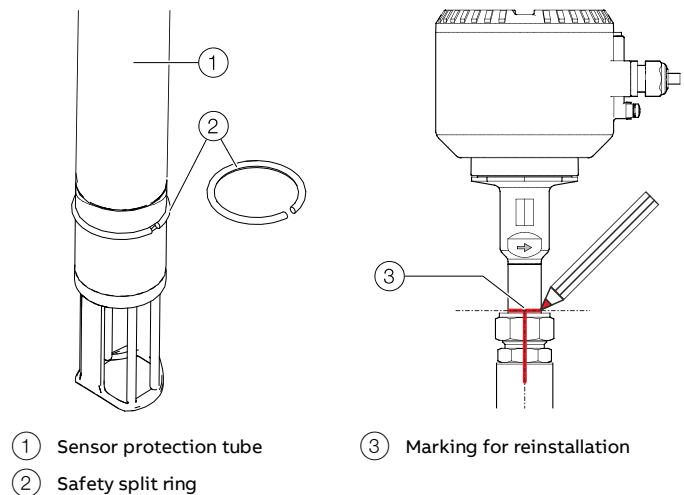
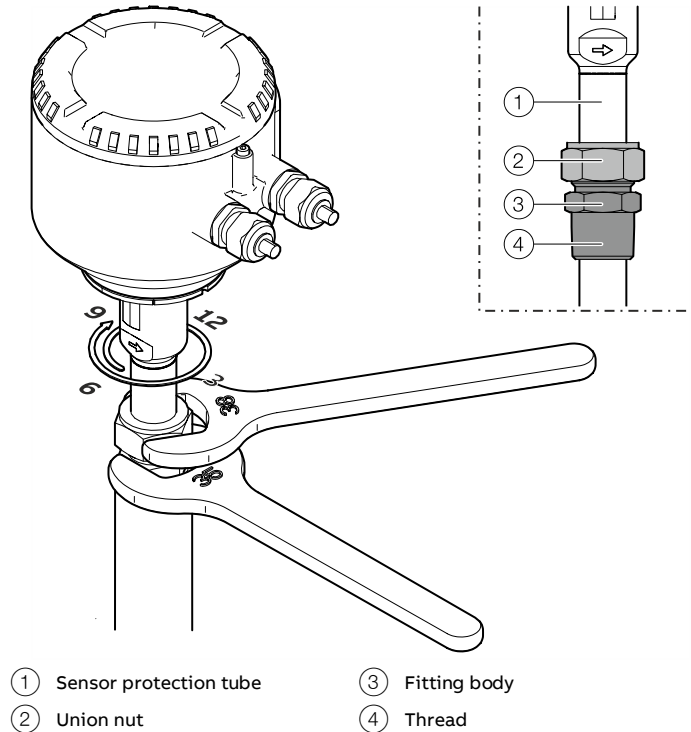

Figure 26: Snap ring and marking
Figure 27: Tighten the sensor
2. Insert the safety snap ring into the snap ring groove using mounting pliers (see Figure 26, item ②).
5. Using a suited marker pen, mark the orientation and height of the sensor on the sensor protection tube, compression fitting and the welding adapter (see Figure 26, Item ③). The marking on the union nut is also used as a starting position (6 o'clock position, see Figure 27) for the tightening of the compression fitting
3. Using a suited marker pen, mark the orientation and height of the sensor on the sensor protection tube, compression fitting and the welding adapter (see Figure 26, Item ③).
1. Make sure that the safety snap ring is inserted in the provided snap ring groove (see Figure 26, item ②).